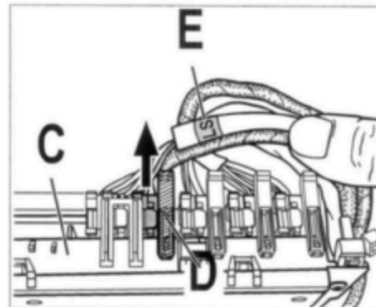

Figure 5
- 6 Press the wires up so that the connectors are easily accessible. Release the **connector for seat fore/aft adjustment** (⇒ *Figure 5 -item D-*) in the fourth slot from the right on both sides **and pull it up** off the control unit (⇒ *Figure 5 -item C-*) to remove it.
An **additional identifying feature** of the connector is a **blue marking** with the inscription "LS" on the bushing tube of the wire to this connector (⇒ *Figure 5 -item E-*).